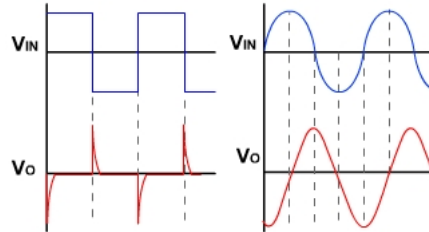
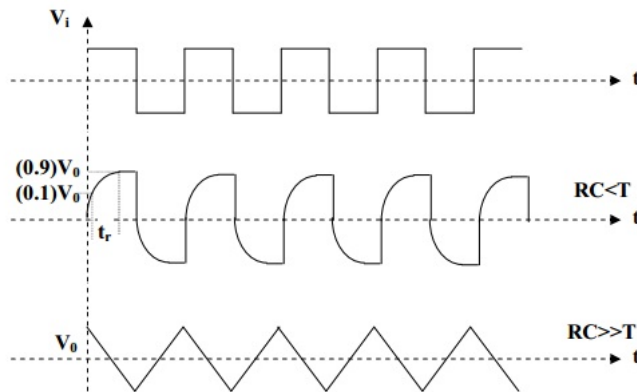

Figure 4.3: Differentiator waveforms
Figure 4.4: Integrator waveforms
A first order filter consists of a single RC network connected to the non-inverting input terminal of the op-Amp as shown in the figure. Resistors R1 and Rf determine the gain of the filter in the pass band. Components R and C determine the cutoff frequency of the filter. Low-Pass filter: The circuit of 1st order low-pas filter is shown in fig.1 and its frequency response is as shown in the fig3. The dashed curve in the fig 4.3 indicates the ideal response and solid curve indicates practical filter response. It is not possible to achieve ideal characteristics. However, with special design techniques (Higher order filters) it is possible to closely approximate the ideal response. Active filters are typically specified by the voltage transfer function, $H(s) = V_0(s) / V_i(s)$ (1) (under steady state conditions) High Pass Filter: The circuit of 1st order high pass filter is shown in fig.2 and its frequency response is as shown in the fig4.4 the dashed curve in the fig 4.4 indicates the ideal response and solid curve indicates practical filter response. When an input signal is applied to High pass filter, the signals at high frequencies are passed through circuit and signals at low frequencies are rejected. That is the signal which are having frequencies less than the lower cutoff frequency f_L are rejected and the signal with frequency greater the lower cut off frequency f_L are passed through the circuit. That is